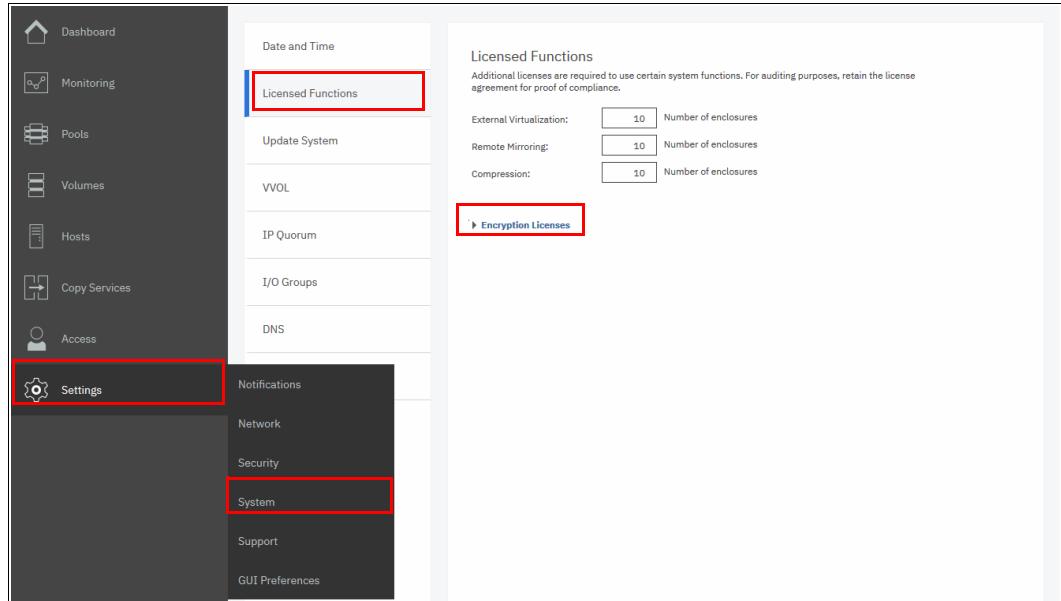

Figure 13-9 Expanding Encryption Licenses section on the Licensed Functions window
2. Click **Encryption Licenses**, as shown in Figure 13-9.